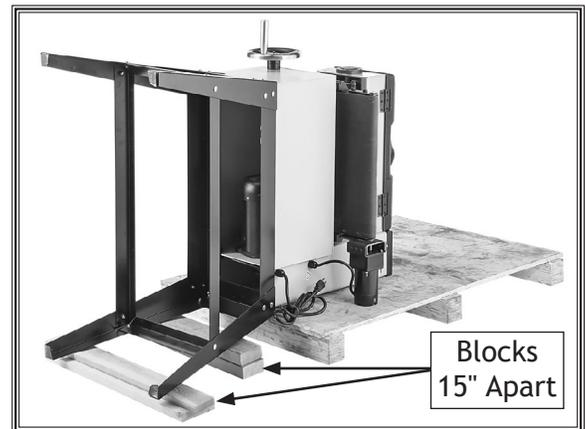

Figure 9. Stand resting on blocks.
11. Lay stand assembly on blocks, as shown in **Figure 9**.
Tip: Place two stacks of blocks the same height as the pallet and about 15 inches apart on the floor near the sander base, and lay the stand assembly on the blocks, as shown in **Figure 9**.